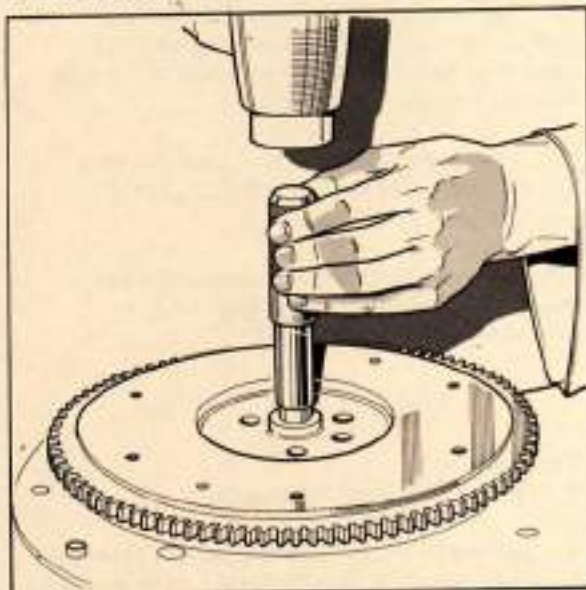

Figure 1 Fitting flywheel bearing
- 1 Clean the flywheel mating face with the crankshaft and crankshaft flange. Check the dowel for damage, and check that the crankshaft spigot bush is in position. Check the bush for wear. If wear is evident, knock out the bush and fit a new one using tool No. RT 7485 (see **Figure 1**). Needle roller bearings have been used as an alternative to the bush and care must be taken when replacing these. It is important to note that the